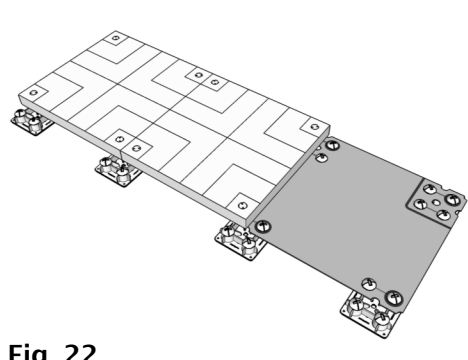

Fig. 22
11. Continue assembly by locating additional Piers (A) with the Pier Template (F) (Fig. 22 through 25) in the manner previously described in steps 8,9 & 10.